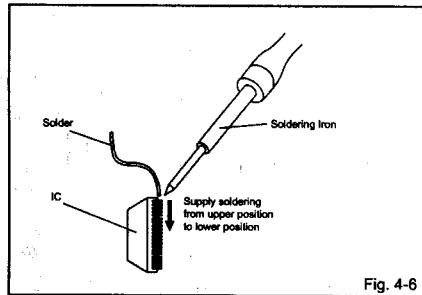

Fig. 4-6
- Supply the solder from the upper position of IC leads sliding to the lower position of the IC leads. (Refer to Fig. 4-6.)